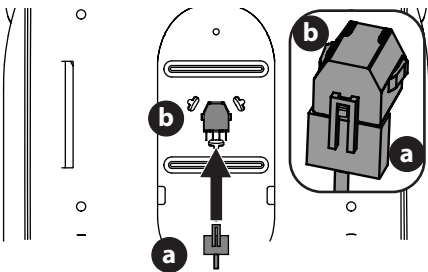

Fig. 7
3. If necessary, securely connect the seat switch wiring harness (a) to the seat switch (b) (Fig. 7). Secure excess wire away from pinch points before continuing.